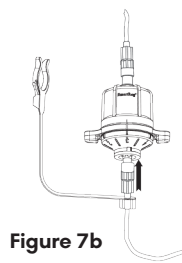

Figure 7b
5. To permanently lock the flow rate prior to the patient being released; remove the Lock Guard from the regulator, push the red locking ring toward the regulator body (See Figure 7b). You will hear an audible click response once permanently locked.